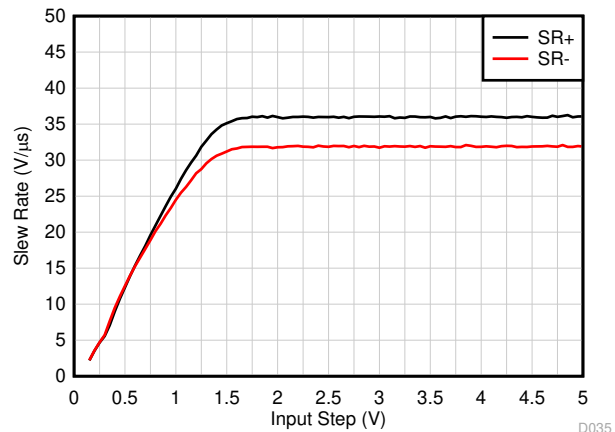

图 6-11. Slew Rate vs Input Step Voltage
- (3) See 图 6-11 for more information.